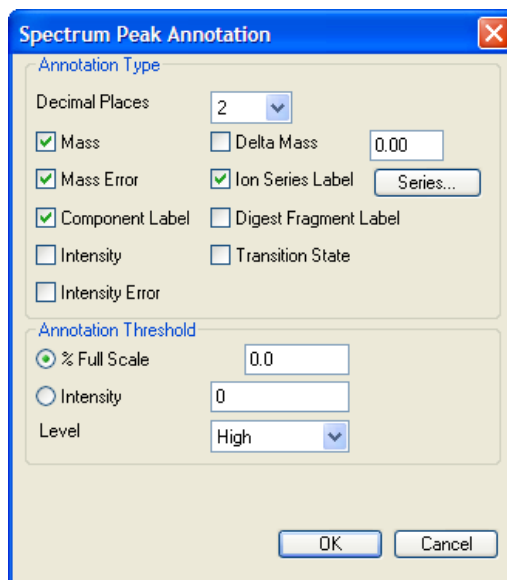

Figure 38 - Peak annotation parameters
15. Click **Display > Peak Annotation** and specify the parameters shown in Figure 38, then click **OK**.